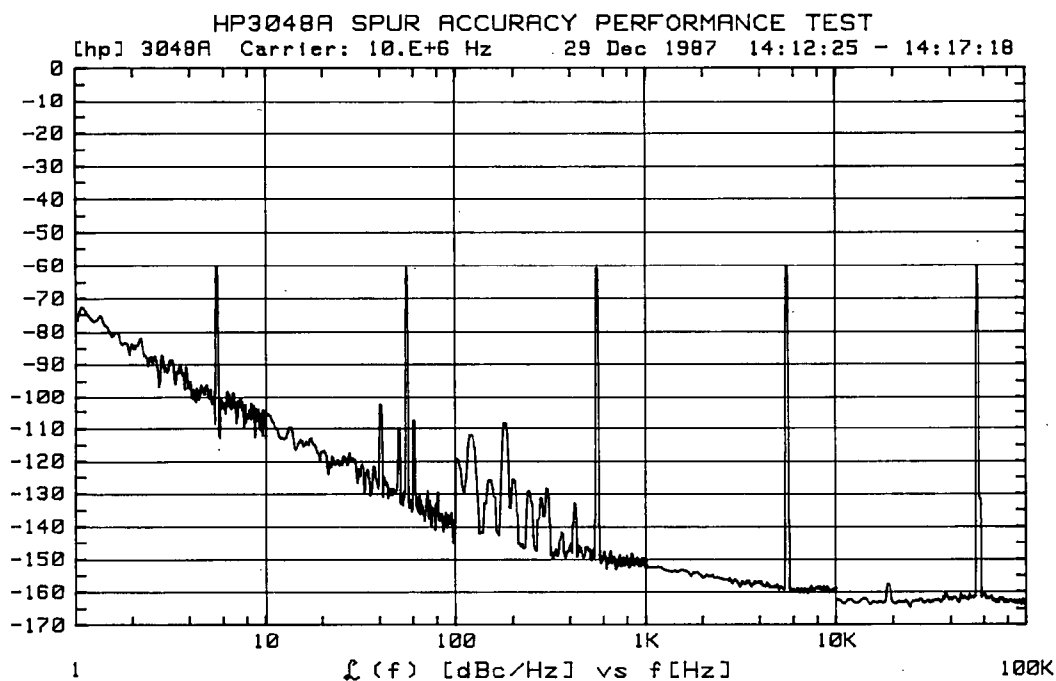

Figure 4. Typical Spur Accuracy Test Results
7. Press the **Proceed** softkey. If the function generator is under automatic control, the measurement should proceed without error messages, and the measured spurs should be similar to the ones shown in Figure 4 with no failures listed. (The measurement takes about 10 minutes depending on controller and the presence of the RF spectrum analyzer.) If the function generator or audio source is under manual control, proceed with step 8.
10. The test will pause after each frequency is measured and prompt for a new frequency setting. This will be done twice: once for calibrating the phase modulation and once for reading the demodulated phase modulation. Press the **Proceed** softkey after completing each setting. When the measurement is complete, the measured spurs should be similar to the ones shown in Figure 4 with no failures listed.